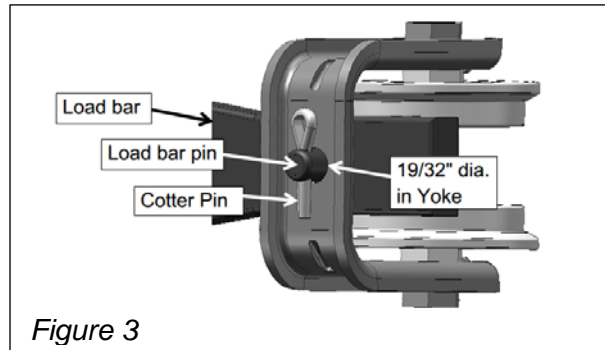
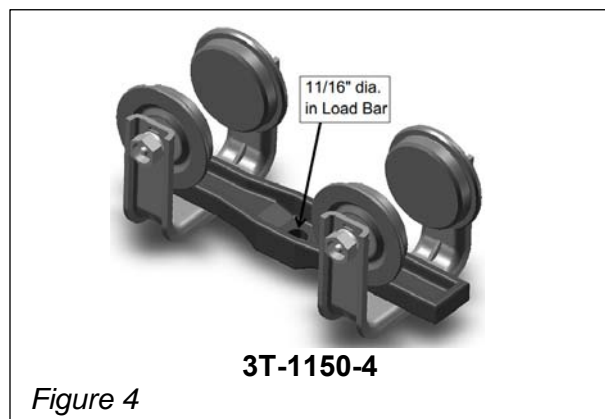

Figure 3
Figure 4
- 3T-1150-4        Figure 3
The loadbar for a 3T-1150-4 or 3T-1150-4L is held in place with cotter pins, as shown in Figure 3. For some specialized applications, the trolley loadbar may be mounted under the trolley yokes (underhung loadbar).
Fittings are installed either in the 19/32" hole in the bottom of the 2-wheel trolley yoke (see Fig. 3), or the 11/16" hole in the center of the loadbar of 4-wheel trolley (see Fig. 4).
Fittings are installed either in the 19/32" hole in the bottom of the 2-wheel trolley yoke (see Fig. 3), or the 11/16" hole in the center of the loadbar of 4-wheel trolley (see Fig. 8).